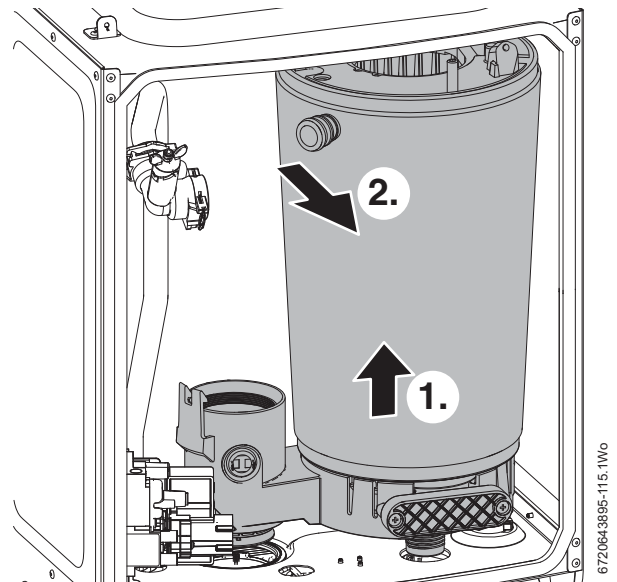

Fig. 109 Heat exchanger removal
1. Refer to figure 109 and lift the heat exchanger up to clear.